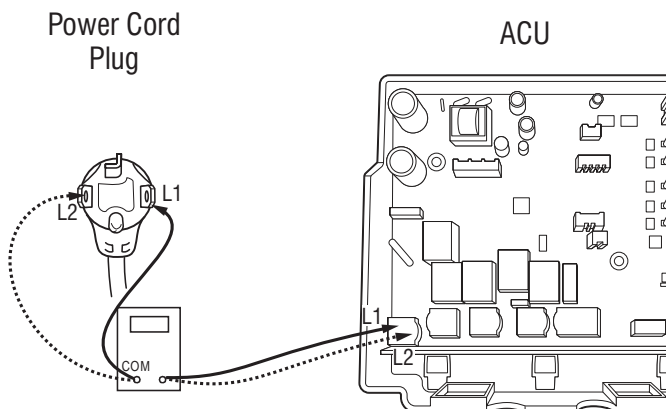

Figure 1 - Plug-to-terminal connections for electric dryer.
3. With an ohmmeter, check the continuity from L1 and L2 plug terminals of the power cord to the terminals for L1 and L2 on the ACU. See figure 1.